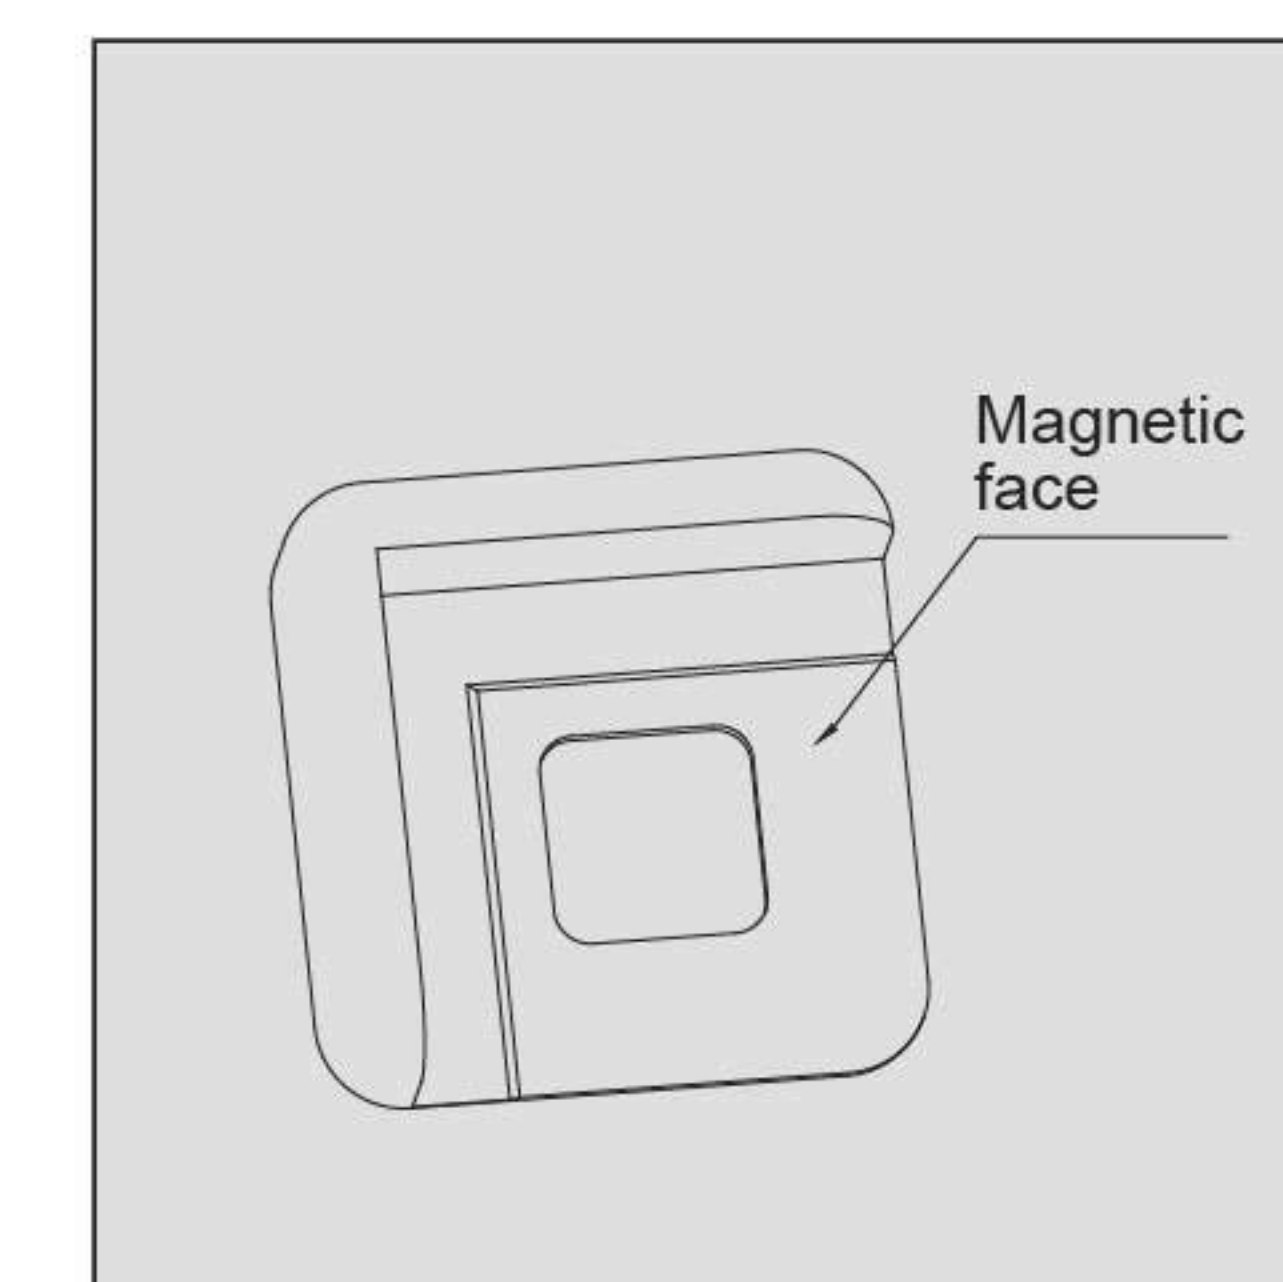
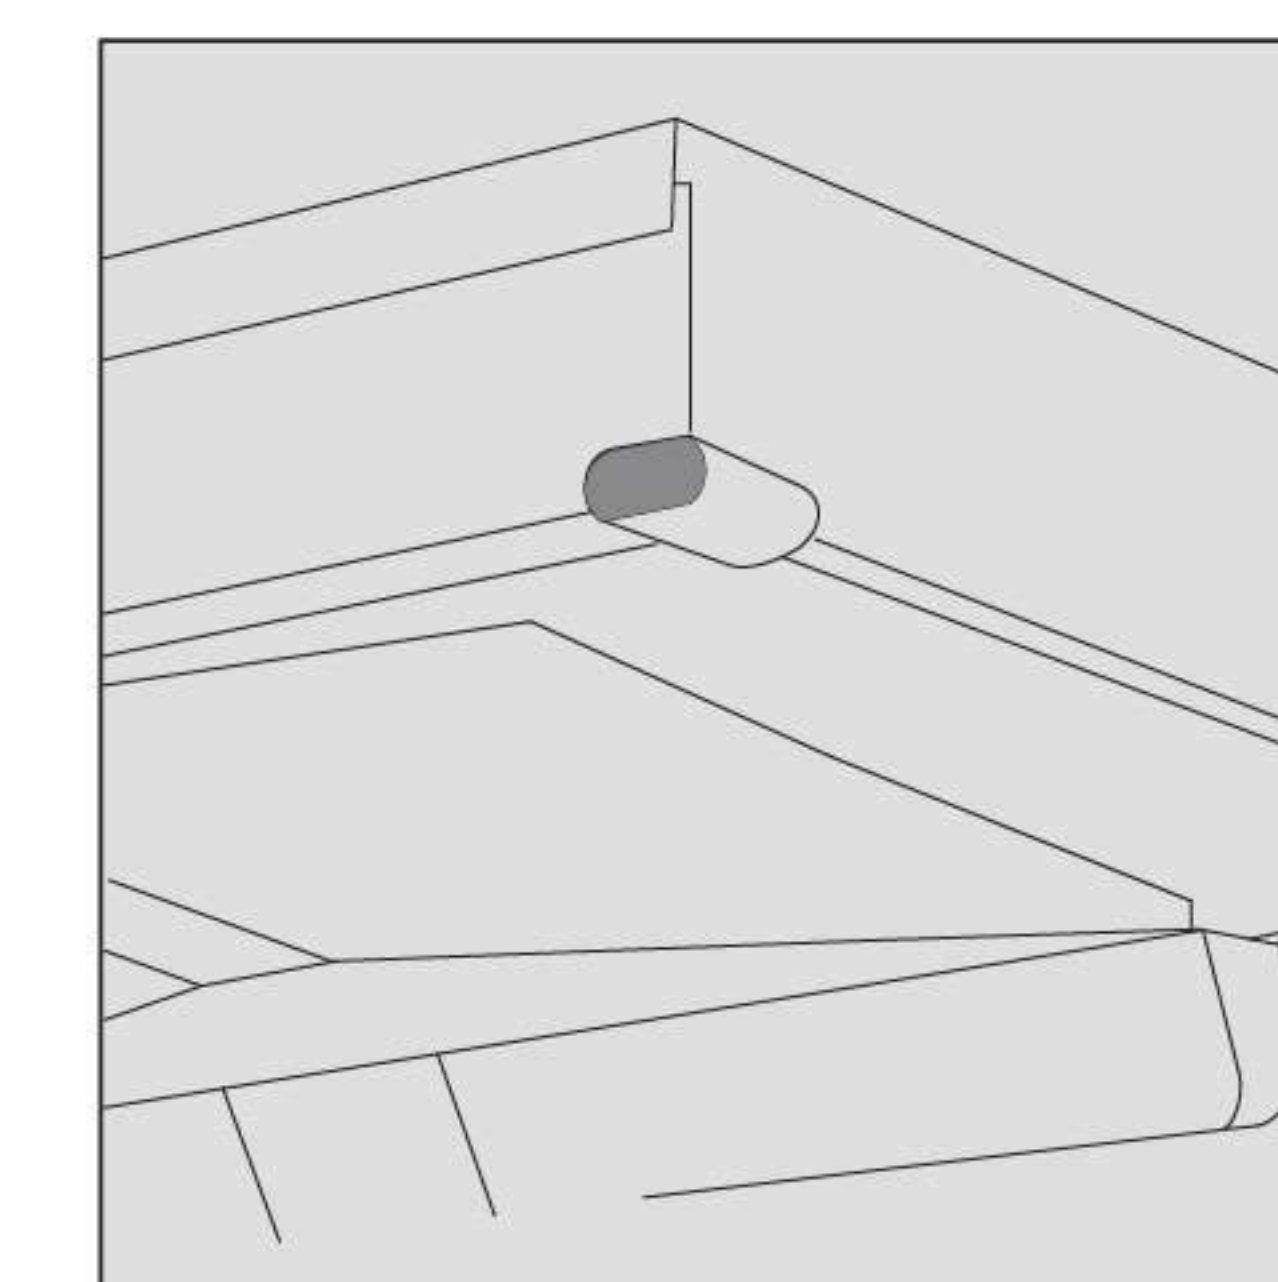

Figure 5
Figure 6
- Install anti-collision accessories, firstly determine the magnetic face of anti-collision component (see Fig 5), then stick the anti-collision accessories to the corner of the smoke exhaust (see Fig 6).